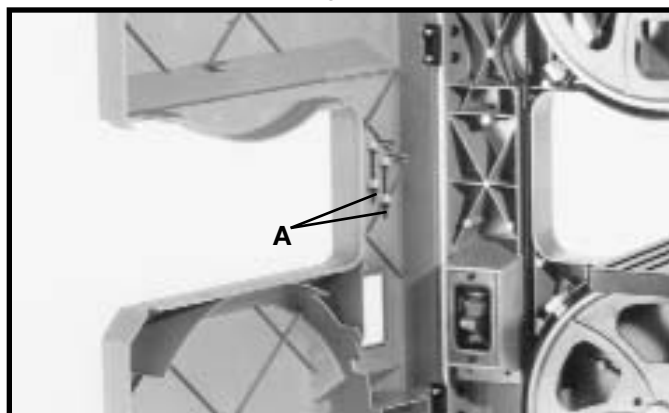

Fig. 37A
The 3mm and 4mm wrenches (A) supplied with your band saw can be stored inside the wheel cover as shown in Fig. 37A.